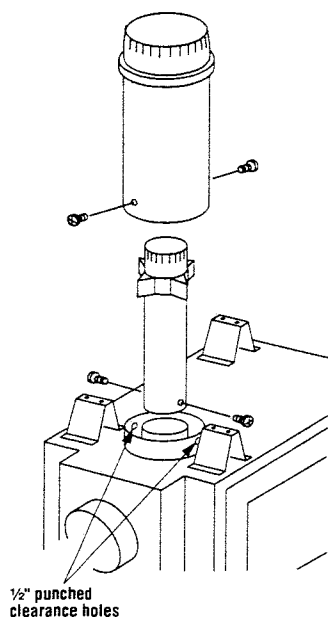

Figure 39
E. The vent sections are crimped at one end to provide a slip fit for elbows and additional vent sections. To begin a vent run, apply _Mill-Pac Black (700°F) high temperature sealant to the inner joint, being sure of a 100% seal (Figure 39) Slide the 5" (127 mm) inner section onto the center appliance collar. (Crimped end always upward.) Locate and transfer drill a 1/8" (3 mm) diameter hole through the collar at the two (2) punched holes (180° apart). Use two (2) No. 8 x 1/2" sheet metal screws to secure the section.